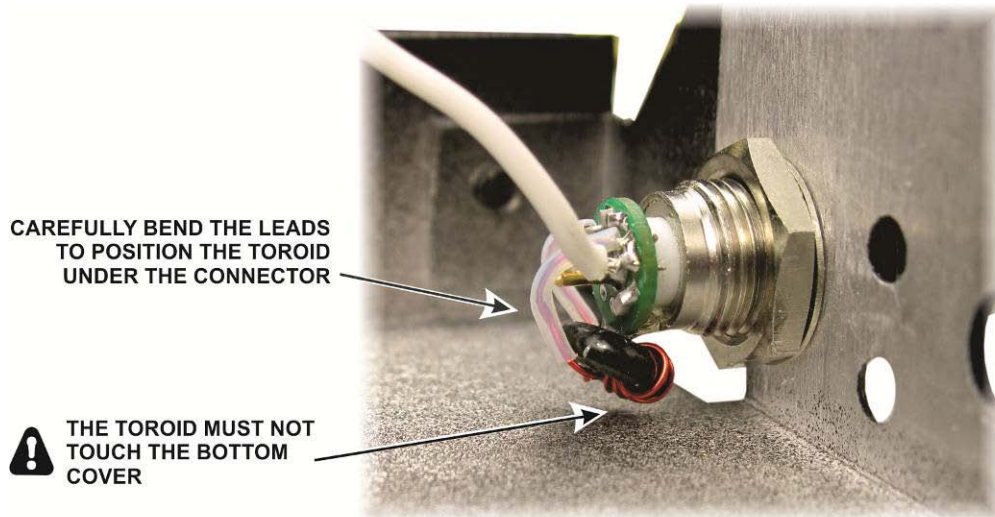

Figure 44. Positioning the LPF Toroid Under the Antenna Connector.
□ Carefully bend the leads to position the toroid underneath the antenna connector as shown in Figure 44. **Be sure the toroid does not rest against the bottom cover.**